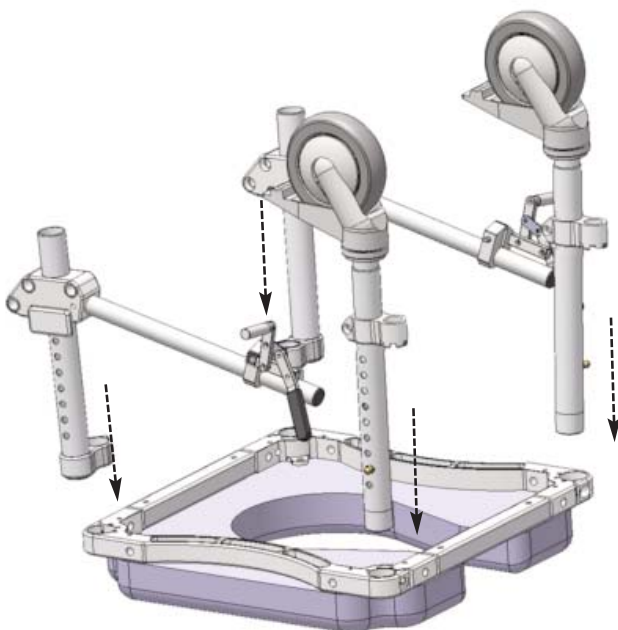

Figure 2
D The top end of each leg should fit easily into the socket of the frame. Make sure that the legs slide "home" into the sockets. Use the included ¼" Allen wrench to tighten the bolts located at the corners of the frame. For ease of future leg height adjustment, position each leg in the socket so that the adjustment holes face outward (Refer to Figure 2).
- 2) Remove the four legs from the seat frame: Reverse the process shown on Page 1 [Assembly Instructions] Step C (Refer to Figure 2).